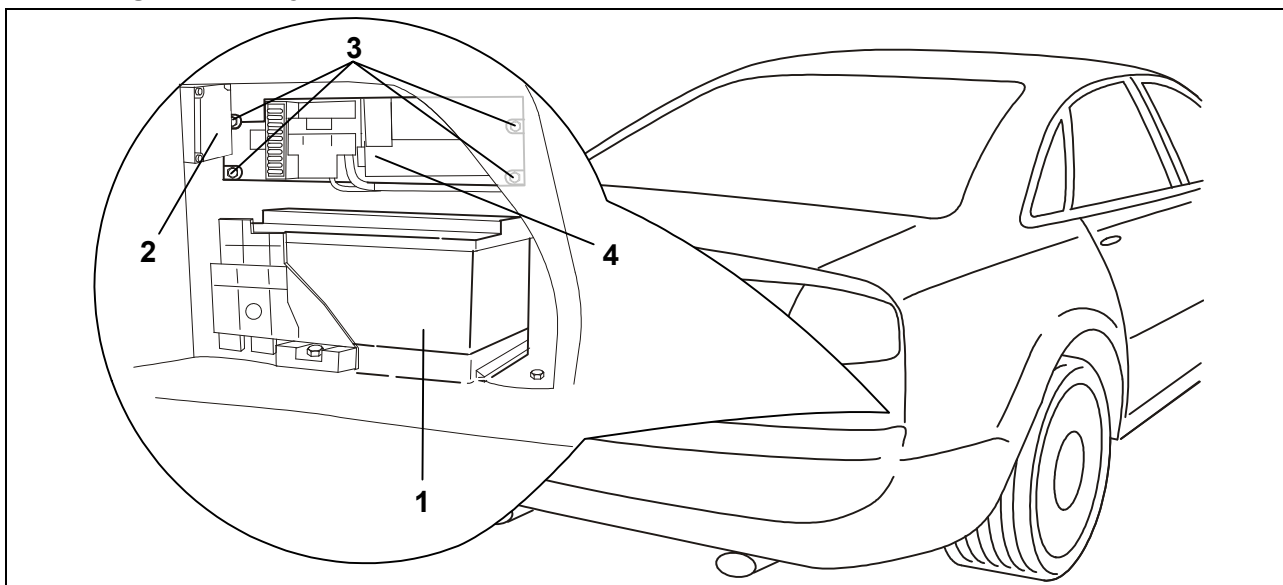

Fig. 1: Battery and component carrier
3. Loosen and remove holders and connections of battery (Fig. 1/1). Remove battery.
4. Loosen the two battery manager (BEM) fastening bolts (Fig. 1/2). Pull the battery manager out a little.
5. Loosen the four fastening bolts (Fig. 1/3) of the component carrier (Fig. 1/4) and carefully pull it out a little.